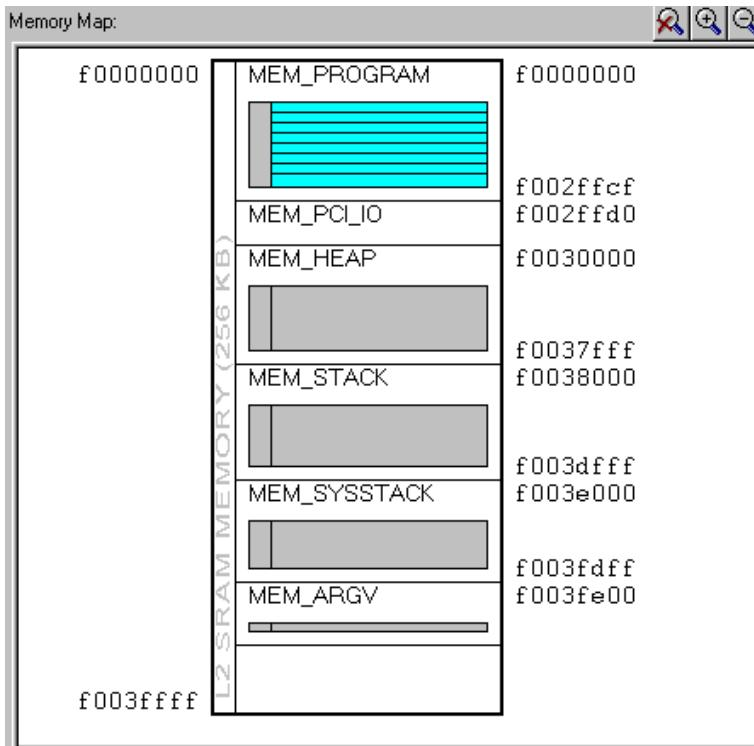

Figure 4-23. Memory Map Pane in Pre-Link View
- To enable pre-link view from the **Memory Map** pane, right-click and choose **View and Mapping Strategy (Pre-Link)**. Figure 4-23 on page 4-31 illustrates a memory map before linking.